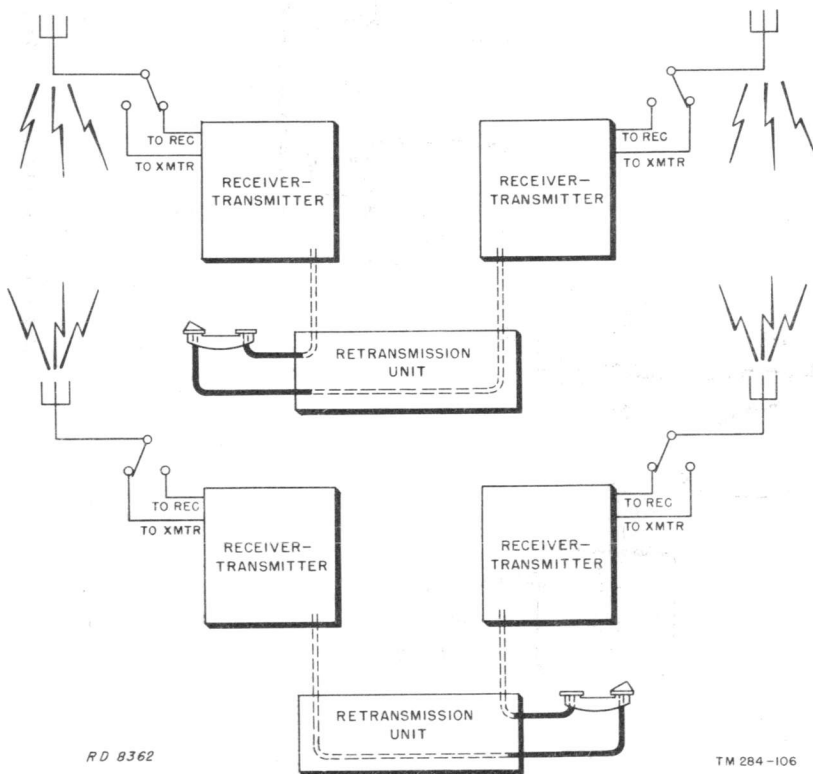

Figure 52.—Duplex operation, block diagram.
d. **Retransmission facilities.**—(1) Facilities are provided for retransmission of any received signal. When this facility is used, the radio set acts as a relay or repeater station between two other radio sets. Retransmission facilities are important tactically since they provide a means of extending communication range and, through use of the Set 2 liaison receiver-transmitter, a means of establishing communication between two different tactical units.
(2) The retransmission unit provides for automatic retransmission of signals received by either receiver-transmitter (Set 1 or Set 2). The signal which arrives first controls the direction of retransmission, that is, whether the signal is received on Set 1 and transmitted on Set 2 or vice versa. It is also possible to manually retransmit the output of the auxiliary receiver over the Set 2 receiver-transmitter.
e. **Duplex radio facilities.**—(1) Duplex radio operation utilizes separate transmitting and receiving circuits to provide simultaneous communication in two directions. In the block diagram shown in Figure 52, one receiver-transmitter is